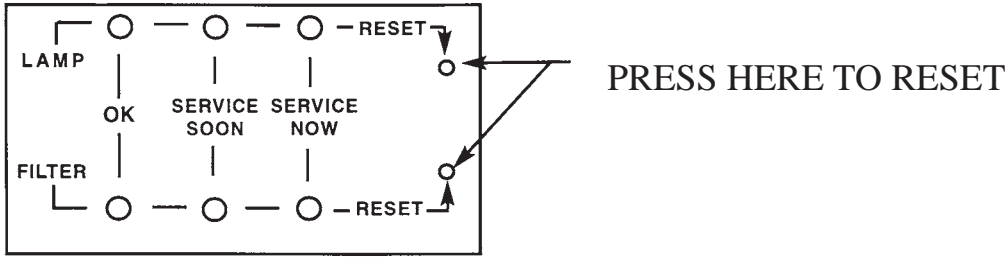

Fig. 6 SERVICE PANEL
On the right side of the service panel, there are arrows pointing to two small holes marked reset. One is marked filter and one is marked lamp (**Fig 6**). Using a small paper clip, bend out one leg straight and insert the end of the paper clip into only the hole corresponding to the replaced component and push lightly until the service light returns to the green position. The computer is now reset.
9. Check the service panel (**Fig. 6**). The LED lights should be flashing in sequence for a 15 second period of time and then return to green. The filter lamp should be flashing green and the UV lamp light should be a steady green.
10. Set the thermostat or the AirCycler to operate the fan unit for at least 25 minutes every hour. If air quality problems persist after one week, increase the fan unit operating time by (5) minute intervals.